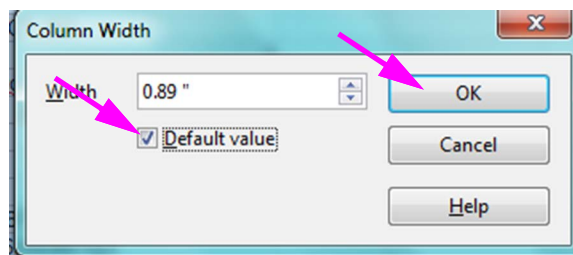

Figure 5-62. Column Width Dialog Box
7. The Column Width dialog box appears. See Figure 5-62.